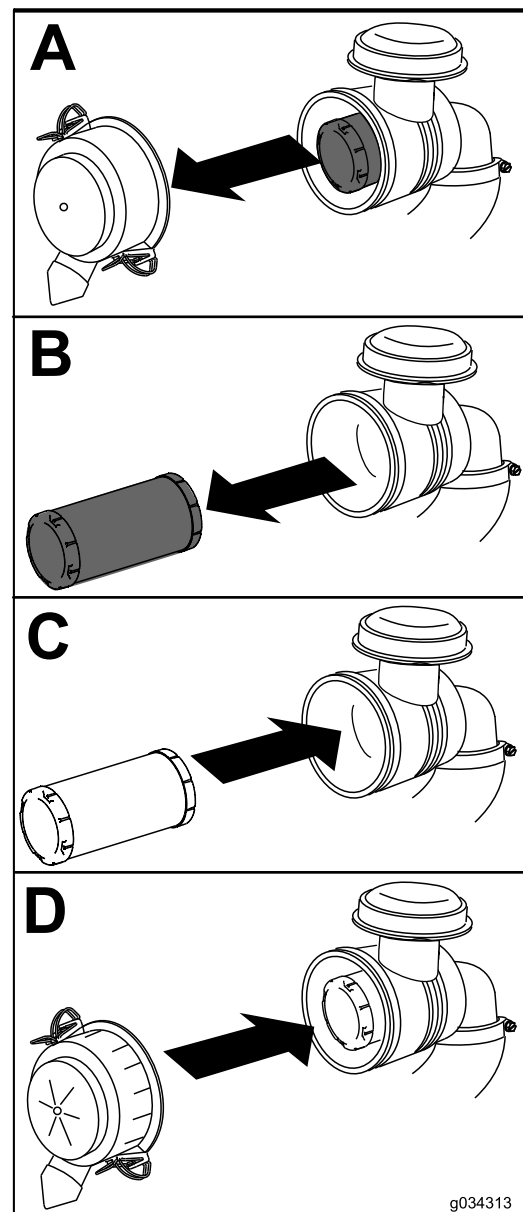

Figure 38
1. Gently slide the air-cleaner element out of the air-cleaner body (Figure 38).
4. Install the air-cleaner cover with the side indicated as UP facing upward and secure the latches (Figure 38).